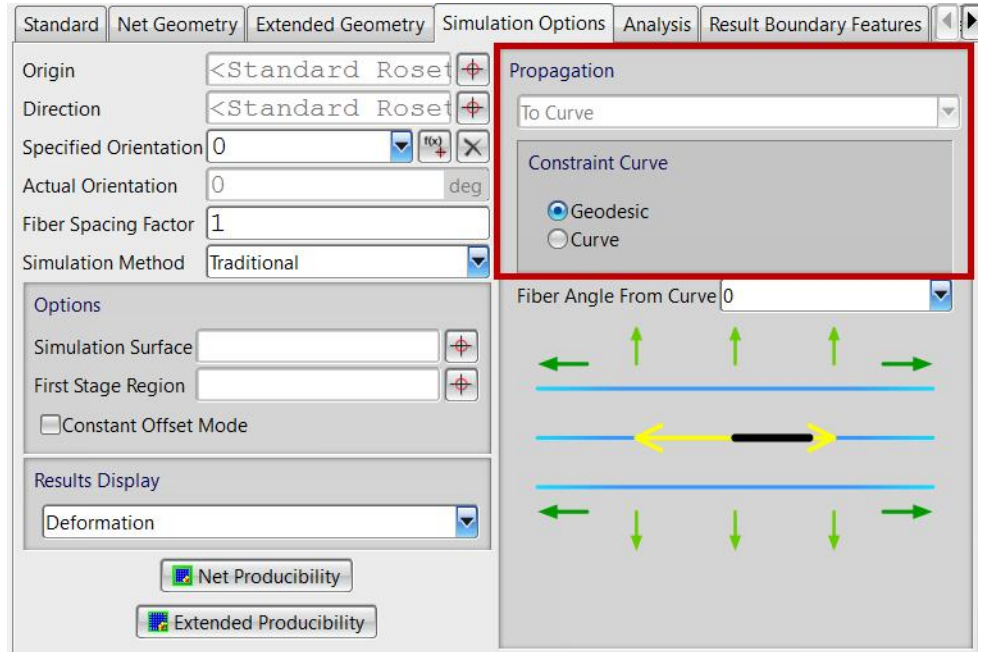

Figure 5–7
5. Note that Fibersim automatically changed *Propagation* to **To Curve** as shown in Figure 5–7.
6. Activate the NX window. The model should display as shown in Figure 5–8.